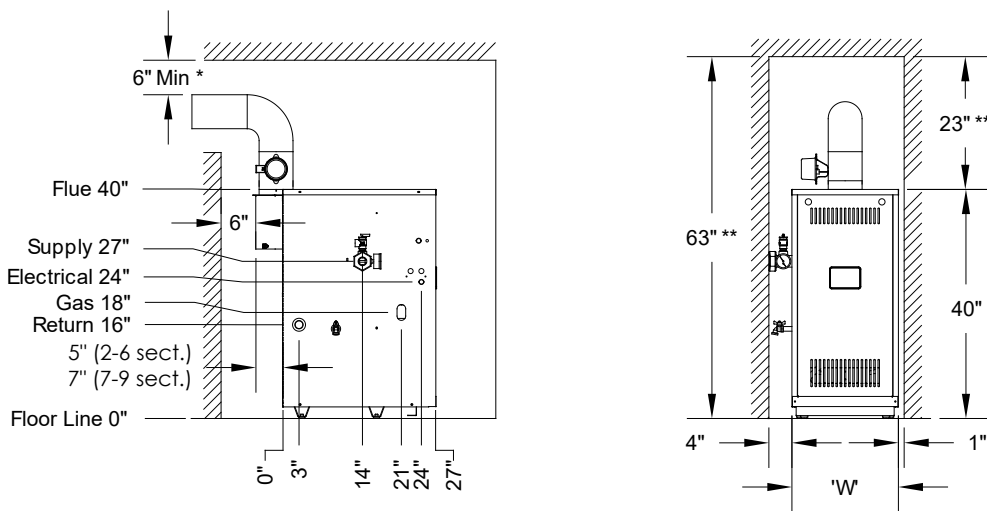

Figure 4-2: Minimum Alcove Clearances - 2-9 Section Boilers
- A. See Figure 3-4 for vent sizes and locations. See Figure 4-2 for clearances.